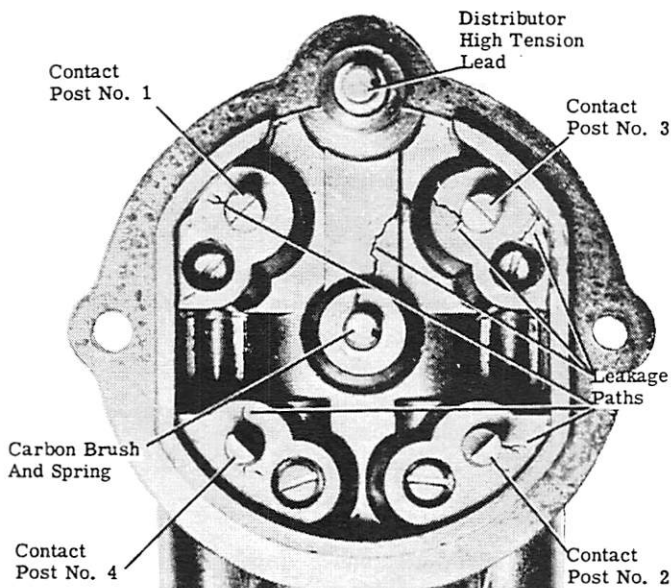

Figure 45. Magneto Cap Leakage Paths
3. A surface leakage path can usually be located because of the burning effect the high voltage spark has on plastic or other insulating materials. (Figure 45)
5. If leakage path is heavy -- or more than one path occurs (Figure 45) -- it is recommended that the part be discarded. When making leakage test, be sure high tension clips are removed from high tension leads to assure an accurate check.